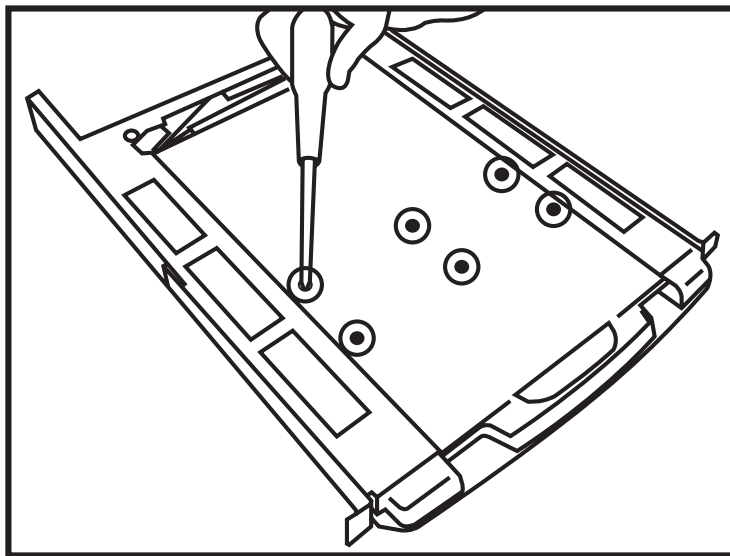

Figure 4-18. Fasten the keyboard and tray together.
2. Use the included six tapping screws to fasten the the keyboard and tray together as shown in Figure 4-18.